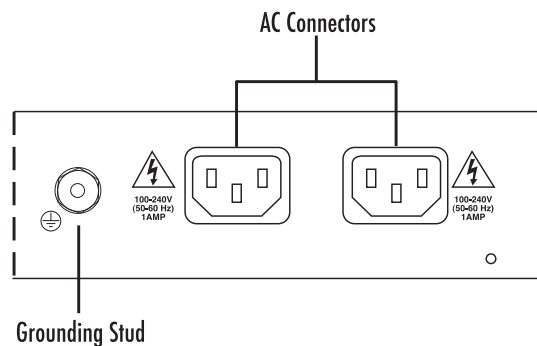

Figure 4. IEC-320 connector and grounding stud locations
2. For the FF3310P only, install the ground wire between the grounding stud and the grounding source (see figure 4.)